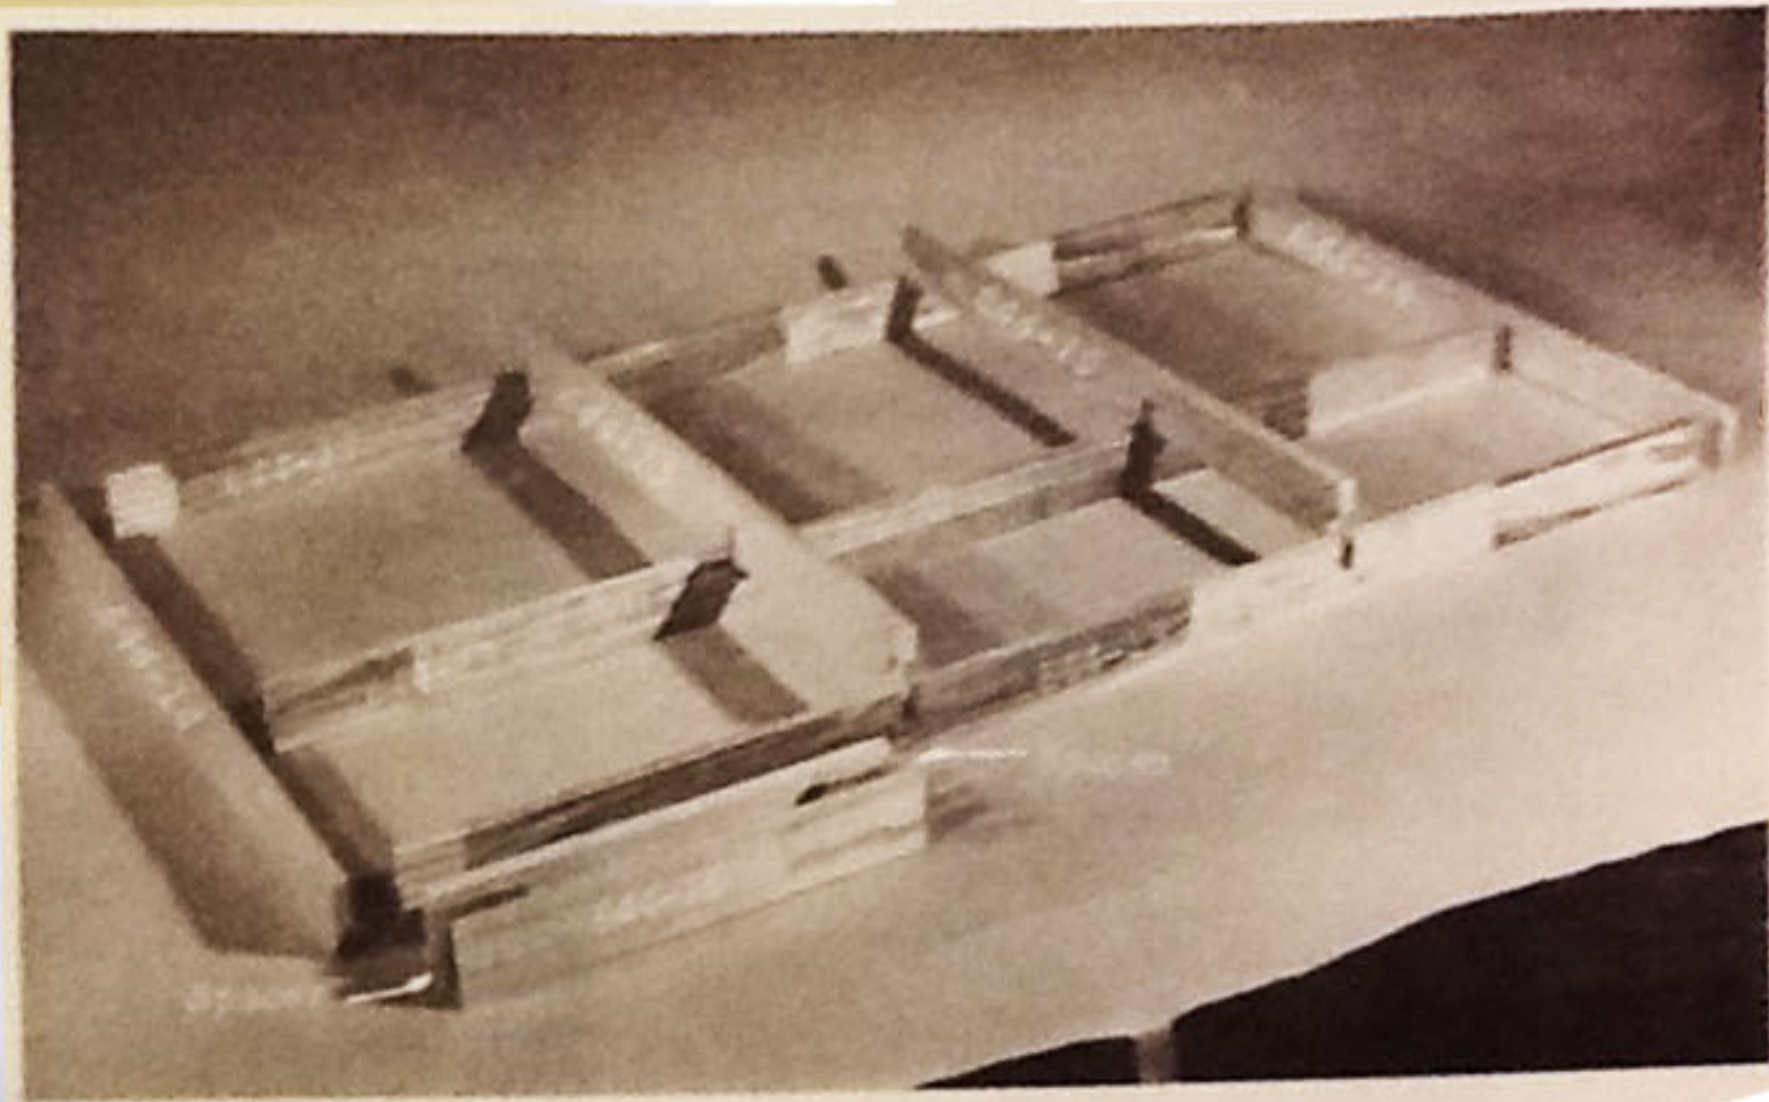

Figure 1
- Foundation parts. Note that some of the pieces are the same length, but are notched. Use the parts list, parts drawing and Figure 1 as a guide.
1. Lay out the foundation pieces as shown in figure 1. Note that the 644-15 pieces have a notch near the middle. Assemble the foundation so that the middle notch is closest to the front. Use figure 1 as a reference.